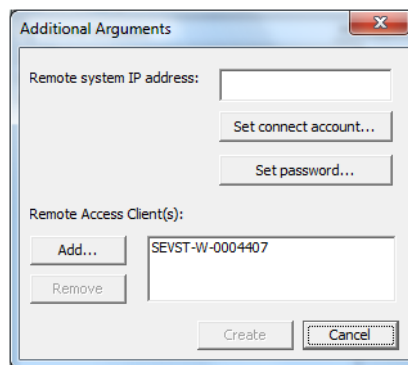
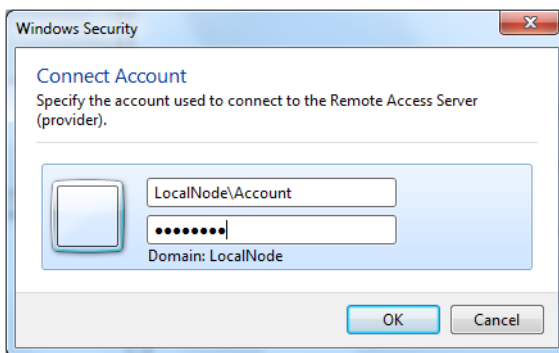

Figure 13. Configuring the Connect Account
Figure 14. Connect Account
2. Enter the Name, and click **Next**, the system displays Additional Arguments dialog, see Figure 13. The name given for the Remote System object will be presented in faceplates, process displays, alarm lists, trends, and history logs.
3. Enter the Remote system IP address, and click **Set Connect Account** to configure the Connect Account. The user specified should be a local user, or a domain user. Domain user can be used when the provider and subscriber system belongs to the same Windows domain. The provider and subscriber belongs to different Windows domains, or workgroups, then a local user is specified. The local user should exist both in the provider and subscriber system with the same account name and password, see Figure 13 and Figure 14.
5. Click **Set Password**, see Figure 13. Password only have to be set if encryption is used.
7. Click **Add** (Remote Access Clients), and click **Create**, see Figure 13.